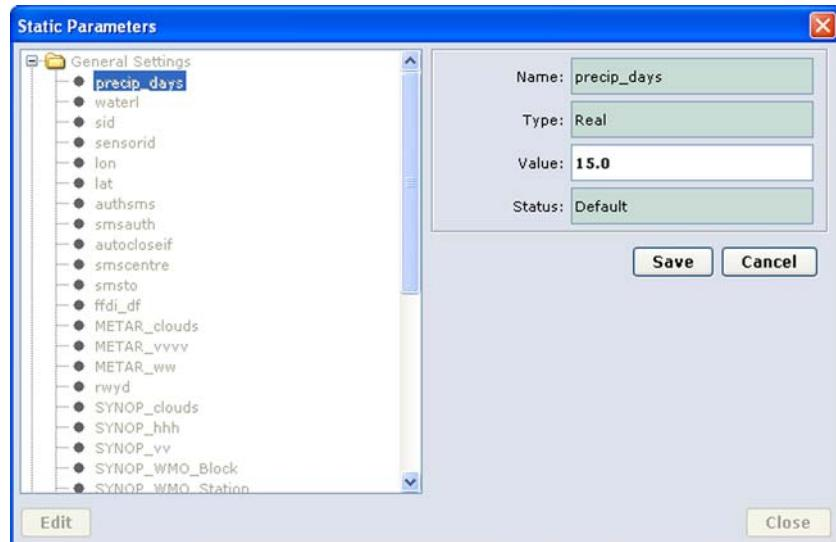

Figure 75 Static Parameters Window: Entering
1. Start the AWS Client software, then select the **Settings** menu, then **Parameters** option, then the **Static** option. Alternatively, you can click on the **Set static parameters** icon in the Toolbar; see Figure 75 on page 161.
3. From the **General Settings** list, select the accumulator parameter; in Figure 75 on page 161, the accumulator is named **precip_days**, suggesting that it represents the accumulated precipitation in the rain gauge.